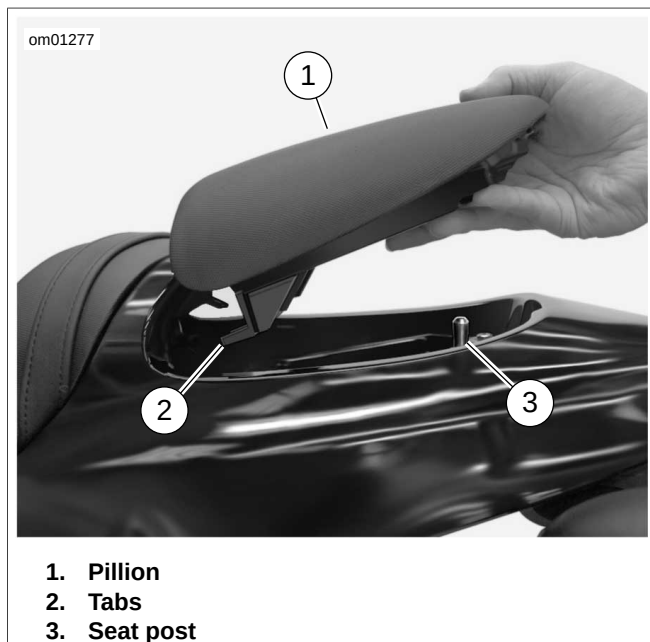

Figure 2-255. Passenger Pillion: XR 1200 Model
1. See Figure 2-255. Lift the rear of pillion to disengage grommet from the seat post.
1. See Figure 2-255. Insert pillion into trunk, aligning tabs on pillion with the slots in the trunk.